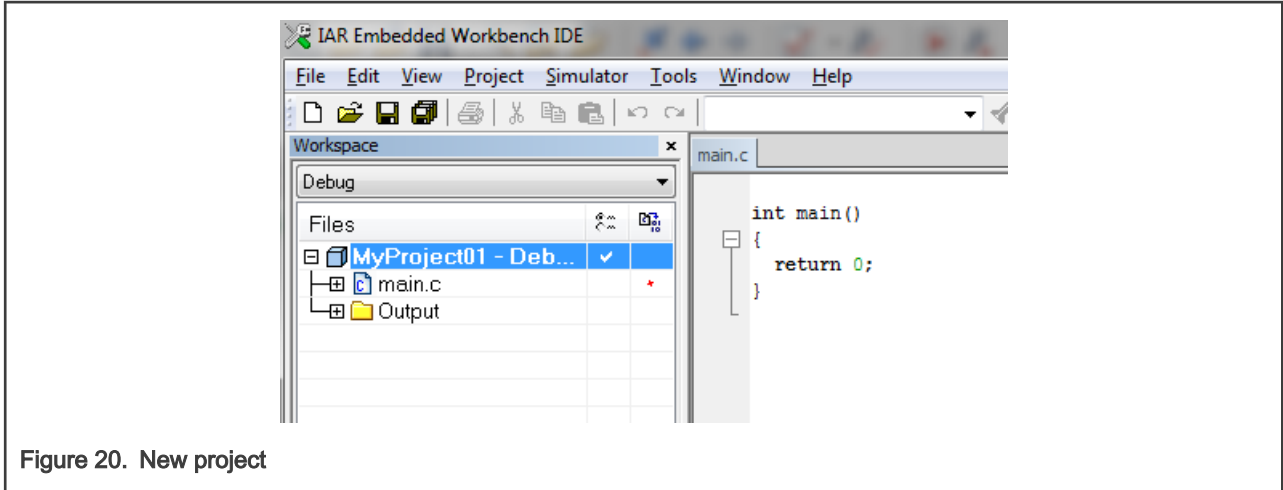

Figure 20. New project
4. Navigate to the folder where you want to create the project, for example, C:\IARProjects\MyProject01. Type the name of the project, for example, MyProject01. Click Save, and a new project is created. The new project is now visible in the left-hand part of IAR Embedded Workbench. See Figure 20.